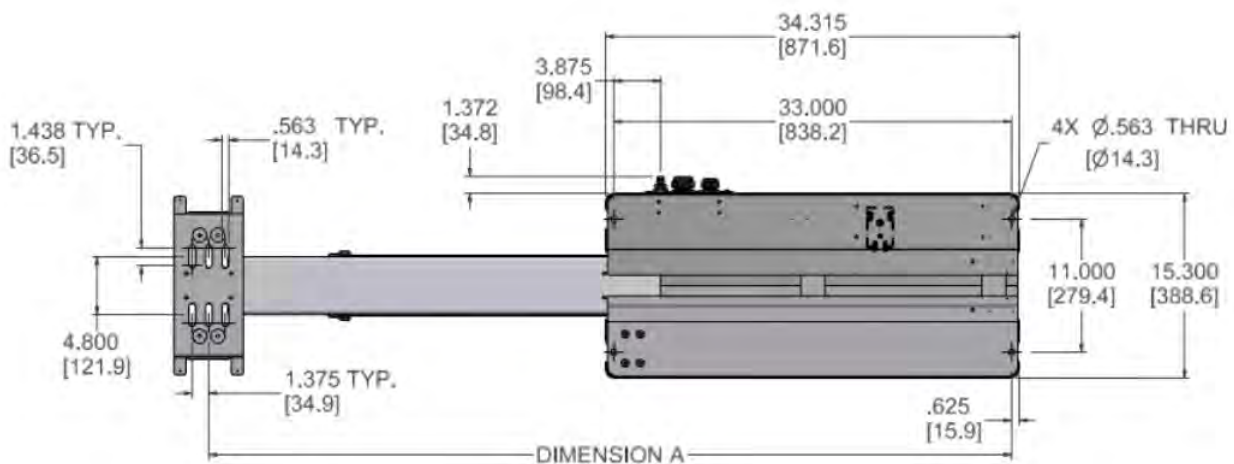

Figure 5-3 Installation Dimensions (Bottom View) Inches [mm]
1. Reference Figure 5-3 and Table 5-3 for standard mounting hole locations. These locations will vary based on which system you are using. Measure the hole locations to confirm or use the unit as a template to mark before drilling. Drill six $\varnothing 9/16$ inch (or $\varnothing 14$ mm) mounting holes into the vehicle mounting structure in the mounting locations. There are four holes for the base, and two holes for the saddle. Drill appropriate holes for cable installation and remove any sharp edges that might damage the cables.
Model	Dimension A Value (from Figure 5-3)